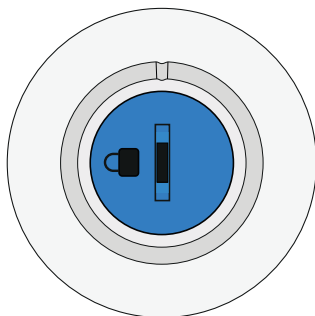

Figure 4: Cam Lock Shown In The Unlock Position
Step 1) Unlock and remove the front of the housing by turning the cam lock anti-clockwise [Figure 4] then release the spring clips and remove the PCB, This will expose the mounting and tamper screw holes.